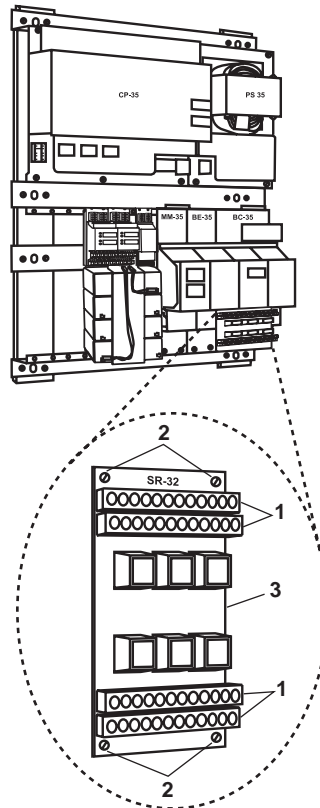

Figure 8. Relay Module SR-32 Replacement
2. Label and disconnect the electrical wiring from the terminal blocks (figure 8, item 1).
3. Remove four screws (figure 8, item 2) that secure relay module SR-32 (figure 8, item 3), and remove it from the enclosure.
1. Position relay module SR-32 (figure 8, item 3) in the enclosure and secure it in place with the four screws (figure 8, item 2)
2. Connect the electrical wiring to the terminal blocks (figure 8, item 1) using the labels from step 2 of Removal as a guide. Remove the labels.